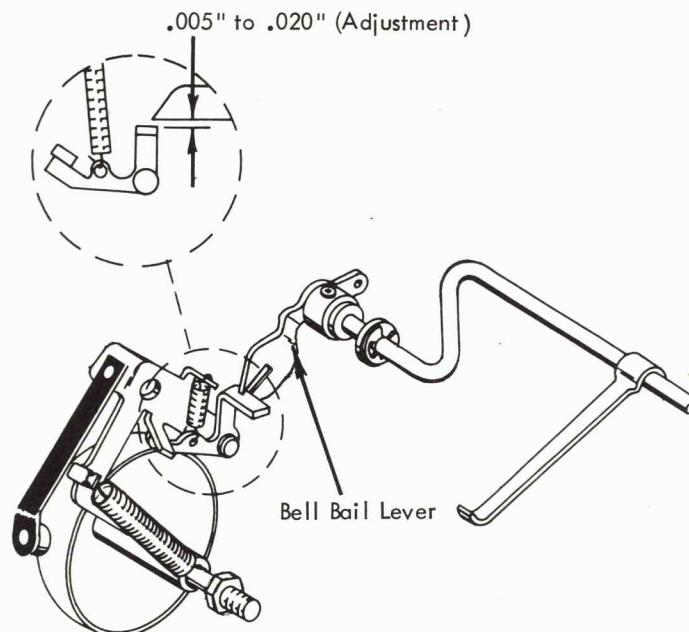

FIGURE 180. Bell Bail Lever (Early Style)
- a. Early - With the carrier positioned away from the right hand margin stop, adjust the bell bail lever located on the left end of the bellringer bail to have  $.005"$  to  $.020"$  clearance with the bellclapper bellcrank lever when the bail is at rest against the bail stop (Fig. 180). The bail stop is located at the right end of the bail.